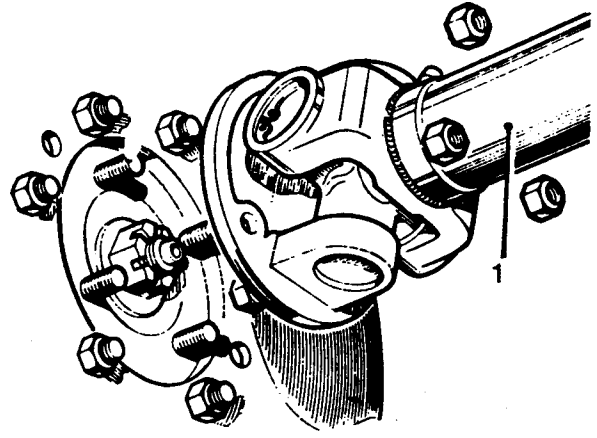

Fig H1.12
(11) Refer to Fig H1.12. Refit the rear propeller shaft (1).
(12) Refill the gearbox with the correct grade of lubricating oil (see Sub-section H1.5).
(13) Replace the floor tunnel (see Sub-section M3, Chapter 5).